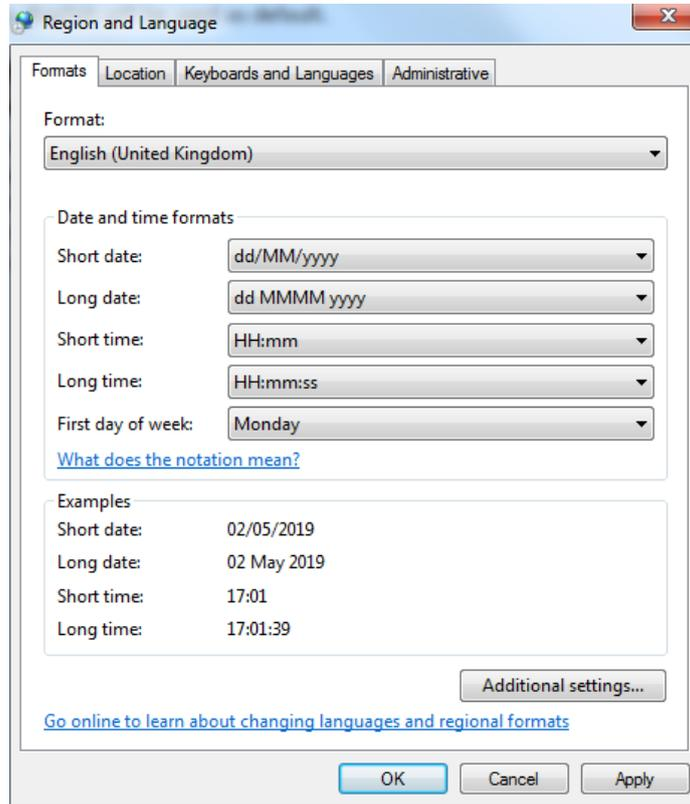

Figure 21. Regional and Language Settings
IMPORTANT: If your operating system is in English and the program is running in English, make sure that the language option in the taskbar is in English. If you are not in Turkish, click on it to try Turkish (TR). If such an option does not appear; For the region; Start -> Settings -> Control Panel -> Regional portion of Turkey (Figure 21) by selecting, for Languages; You can select English (Figure 21) in Start -> Settings -> Control Panel -> Language Options. During this process, Windows may prompt you to install the Microsoft Windows installation CD. If you are having problems with this selection, contact your computer provider or Kardinero.